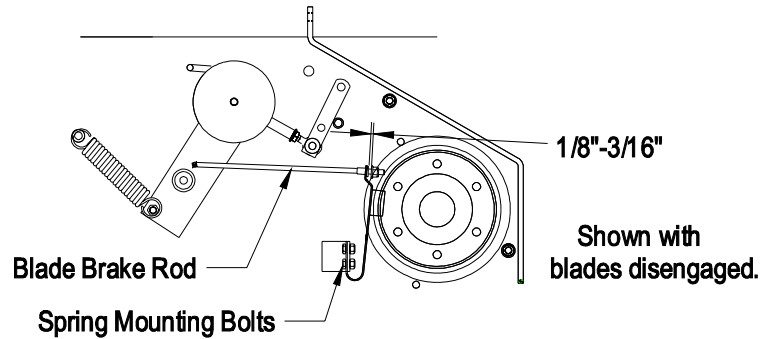

FIG. 18
- c) Make sure the blade brake pad rests against the sheave. Adjust the spring mounting bolts to properly align the pad on the sheave. See Figure 18.
- d) Check the distance between the spacer and the nut at the end of the blade brake rod. The distance should be between 1/8" and 3/16". See figure 18.